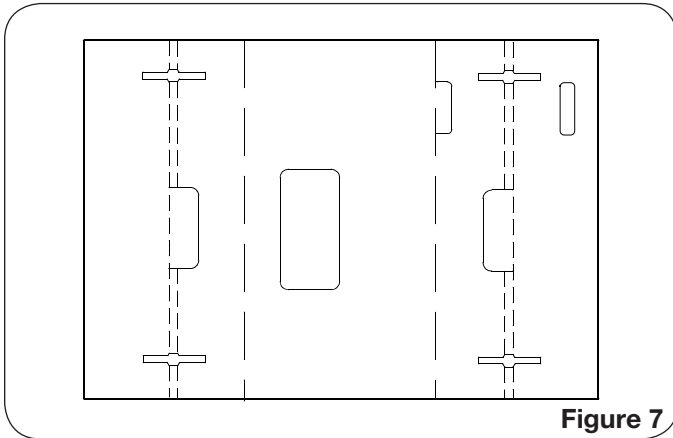

Figure 7
7. Top insert flat (Figure 7).